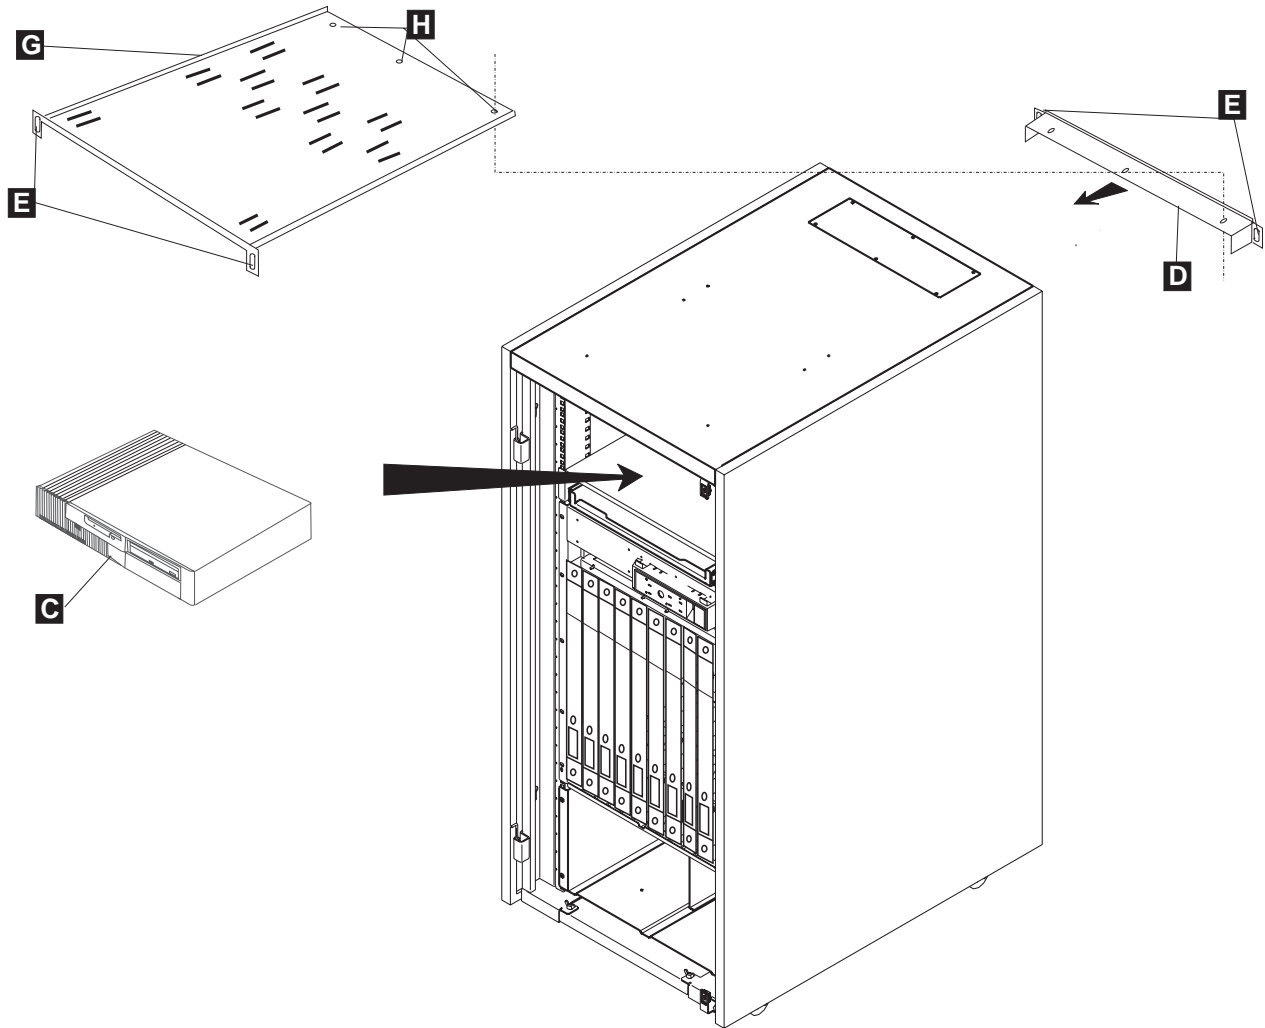

Figure 5-13. NAS Installation in 29 U Rack
1. Install the NAS **C** on the drawer (see Figure 5-13).